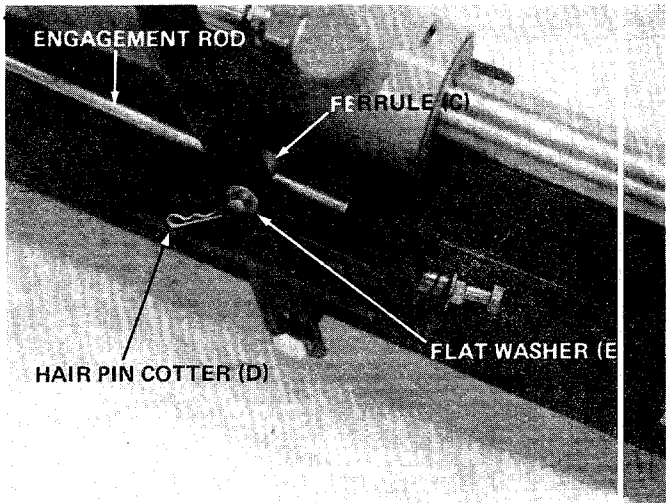
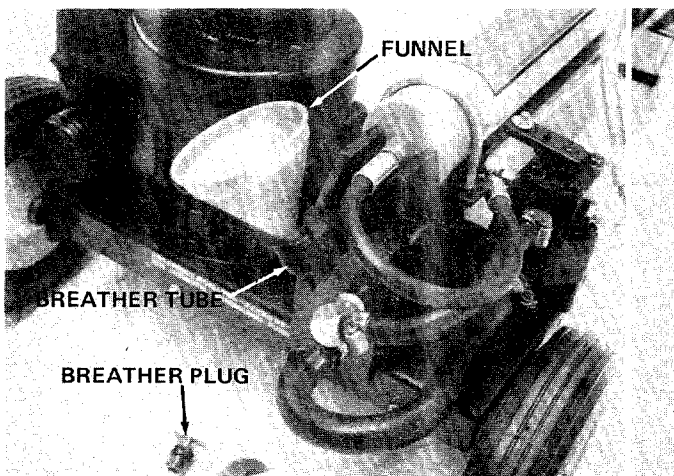

FIGURE 5.
FIGURE 11.
4. Place the engagement handle in the notch in the slotted bracket. See figure 5. Thread the ferrule (C) onto the engagement rod until the ferrule lines up with the hole on engagement handle.
5. Secure the ferrule (C) to engagement handle with flat washer (E) and hairpin cotter (D). See figure 5.
3. Fill reservoir tank on log splitter. Remove the breather plug from breather tube. See figure 11. Pour approximately 2 gallons of Dexron automatic transmission fluid **ONLY** into breather tube.
2. Remove check pipe plug in rear of beam. See figure 5. If oil starts to come out of check pipe plug hole, oil level is correct. IF IT DOES NOT, add oil to breather tube (see figure 11) until oil starts out.